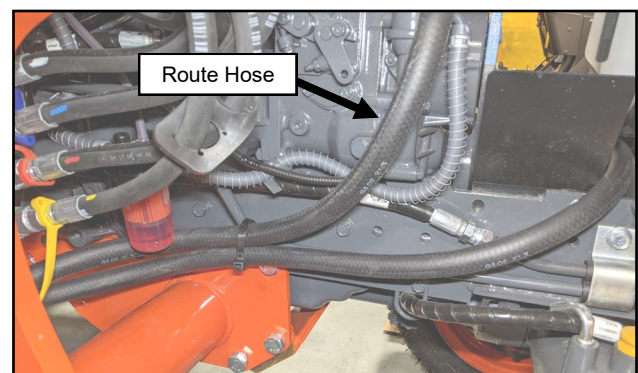

Fig. 15.14 (Route Heater Hose)
- 15.14** Continue routing the heater hose along the side of the engine and then up toward the hose nipple. See Figure 15.14.